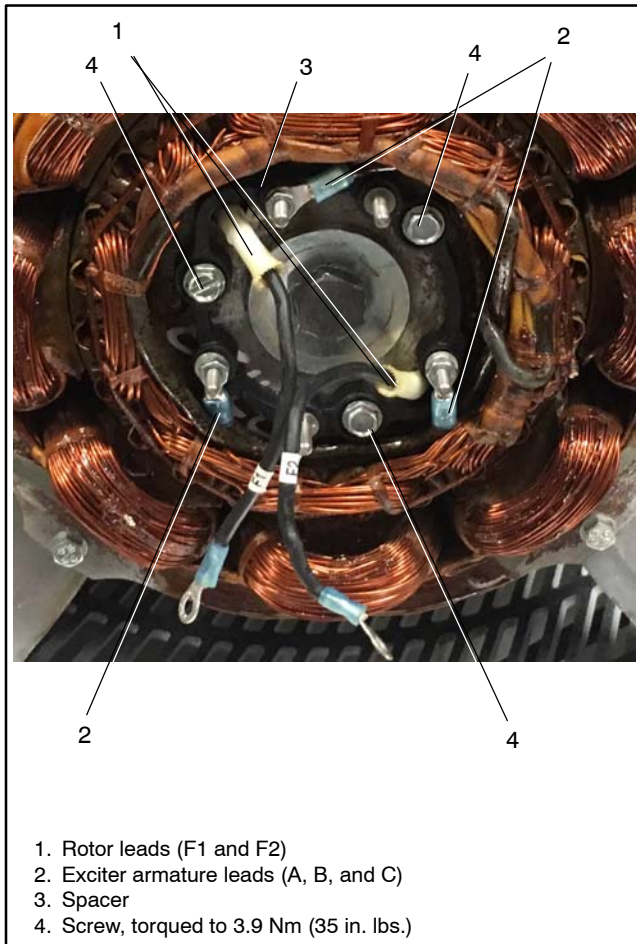

Figure 4-23 Route Leads to Spacer
- a. Route the rotor leads (F1 and F2) around the inner diameter of the spacer as shown in Figure 4-23.
- b. Route the exciter armature leads (A, B, and C) around the outer diameter of the spacer as shown in Figure 4-23.
2. Mount the spacer to the exciter armature using 3 screws and torque to 3.9 Nm (35 in. lbs.). See Figure 4-23.